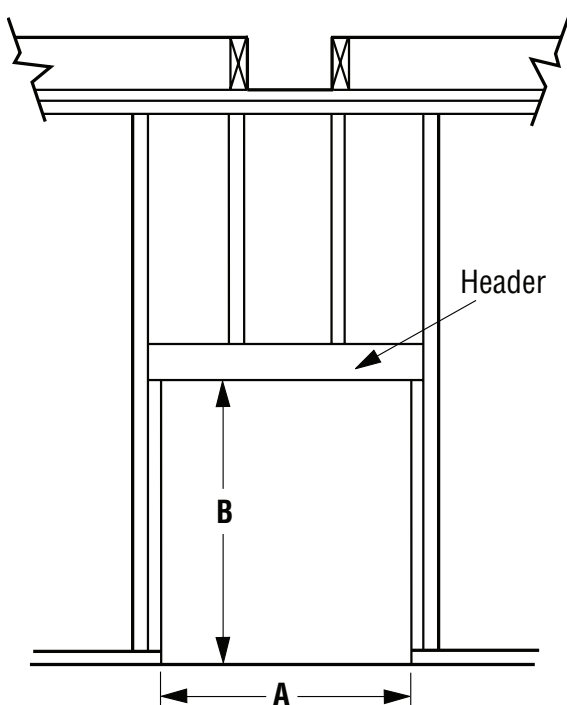

Figure 4 - Fireplace Framing
1. The location must allow for proper clearances (see Figures 4 thru 7).
1. Frame opening for fireplace using dimensions shown in Figures 4 and 5.